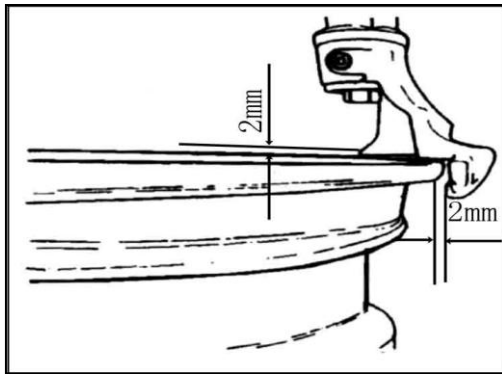
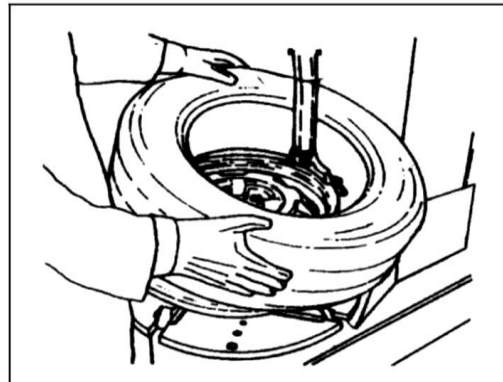

FIG16
FIG18
✧ Press the lock handle press button (FIG3-3) to lock horizontal arm and hexangular shaft and the hexangular shaft will automatically move upwards. The quadric shaft will automatically backward a little to make the demount tool detached from the rim of the rim to avoid the damage on the rim (FIG16).
✧ Take out the tube and then move up the lower lip to contact with the upper edge of the rim and detach another lip (FIG18). Step the column tilt pedal (FIG3-9) and the column tilt backwards and at this moment, you can take off the tire.
- ✧ Spread the lubrication liquid or soap liquid around the lip. Tilt the tire against the rim and keep the front end upwards. Press down the column tilt pedal (FIG3-9) to make the column return to the original position. Move the demount head to firmly contacted rim (FIG16). Position the left of the lip above the tail of the demount tool and the right under the hump of the demount tool (FIG18).